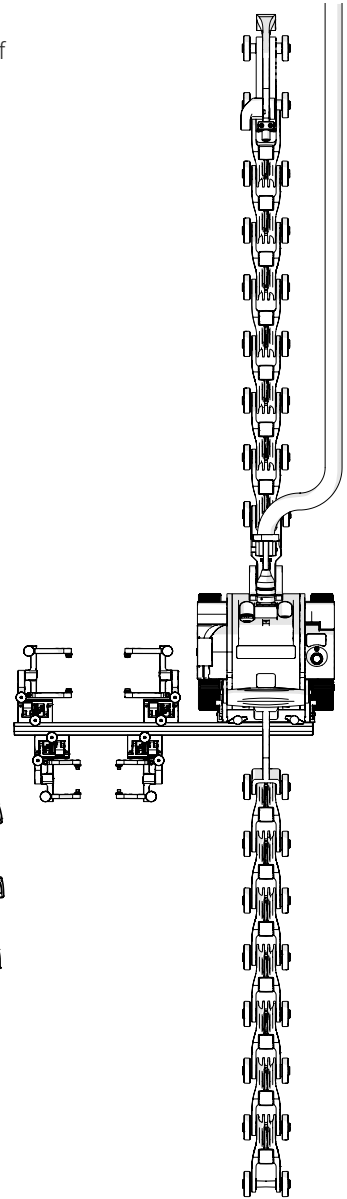

Fig. 165 - Assembled configuration
4. On a flat surface, connect the appropriate number of QuickLinks (Fig. 165) as indicated on the setup chart. (see "MOTIX Setup Chart" on page 107).